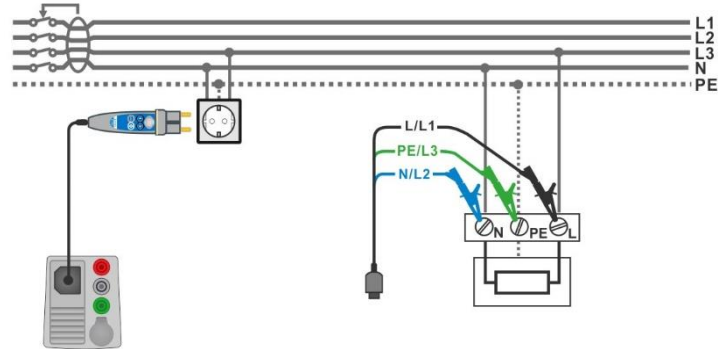

Figure 7.75: Z auto measurement
- ▶ Connect 3 wire test lead or Plug commander to the object under test, see **Figure 7.75**.